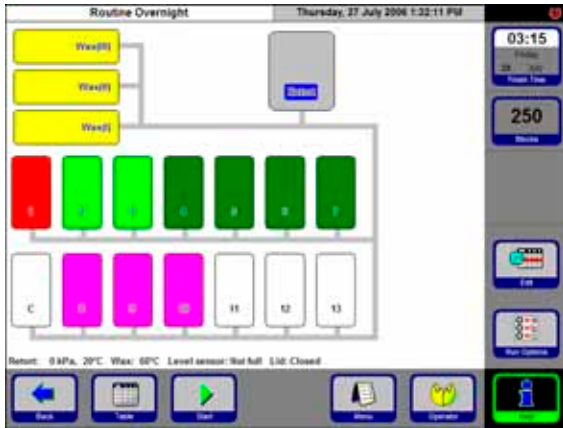

Fig. 63
- A screen with the graphic representation of the program appears; in it, all of the stations necessary for this program are color coded according to reagent group (Fig. 63).